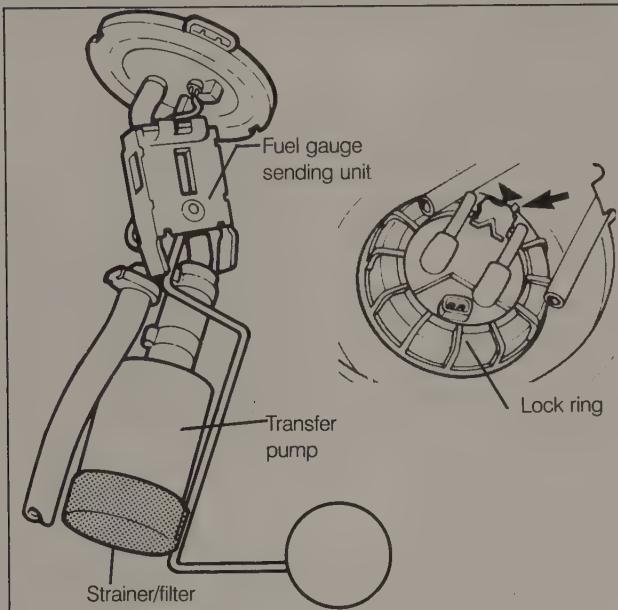

Fig. 4-5. Transfer pump and fuel gauge sending unit assembly shown removed from fuel tank. Inset shows alignment of matching marks (arrow).
4. Loosen and remove the large lock ring on the transfer pump and fuel gauge sending unit assembly by turning it counterclockwise. See Fig. 4-5. Remove the assembly from the fuel tank.
6. Place the transfer pump assembly with gasket in position on the tank with the matching marks aligned as shown in Fig. 4-5 above.